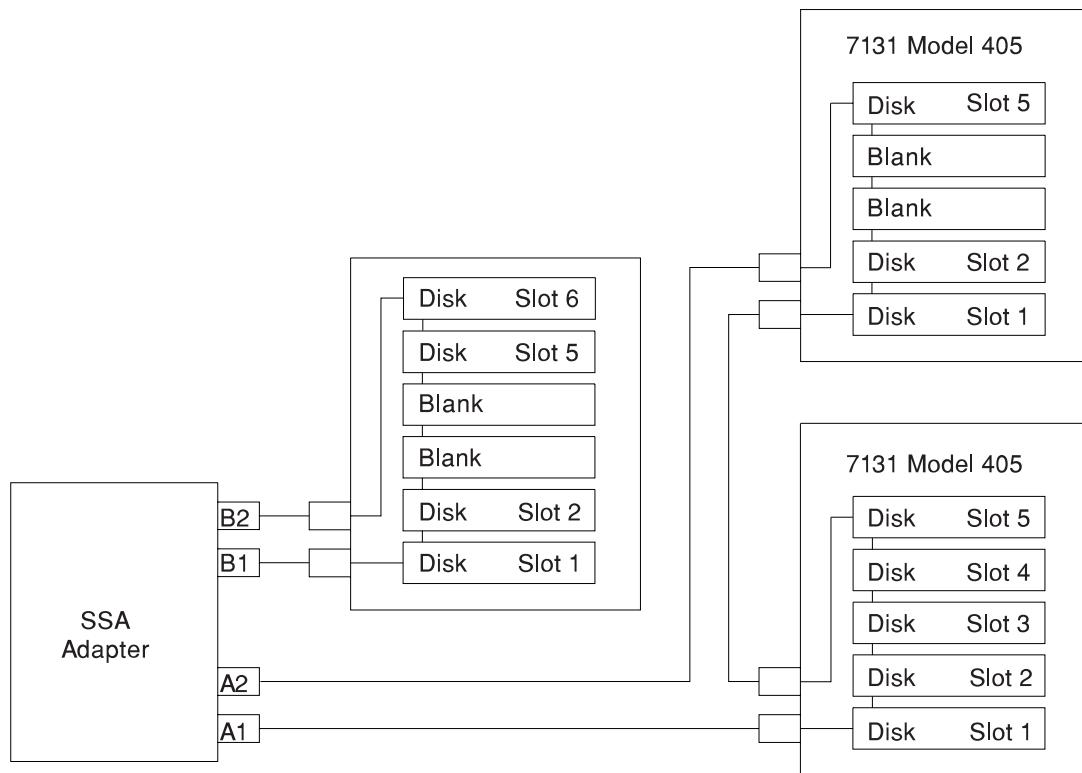

Figure 3-5. Normal Loops
**Example 1. Normal Loops** In Figure 3-5, eight disk drive modules are connected to connectors A1 and A2 of the SSA adapter. Five disk drive modules are connected to connectors B1 and B2 of the same SSA adapter.